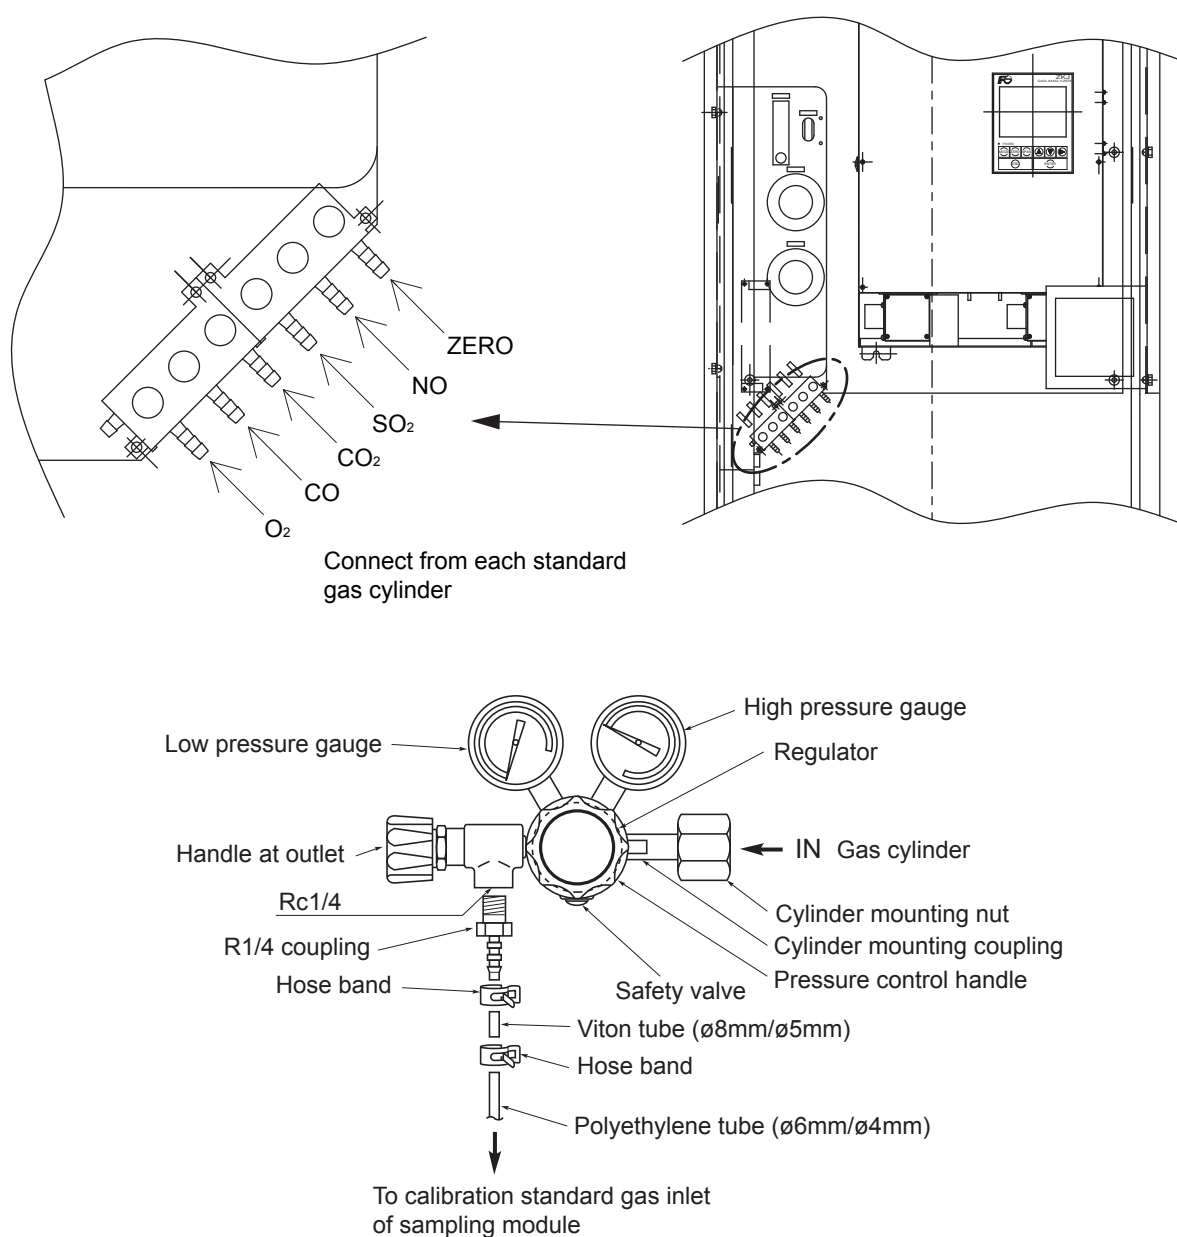

Fig. 2-1
(1) Install pressure regulators at the gas cylinders.
(2) Attach a polyethylene tube ( $\phi 6\text{mm}/\phi 4\text{mm}$ ) at the solenoid valve located in the left side of the analyzer. Then, cut the polyethylene tube at a proper length not so as to contact a space heater (option). (See Fig. 2-1).
(3) Install the standard gas cylinder in the lower section of the analyzer locker.